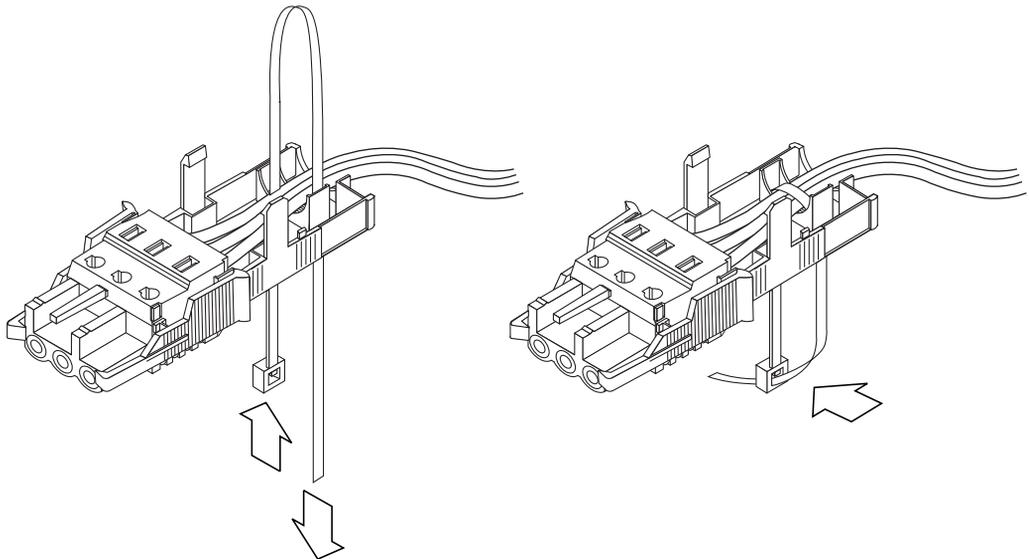

FIGURE 3-8 Securing the Wires to the Strain Relief Housing
3. Insert the tie wrap into the bottom portion of the strain relief housing (see FIGURE 3-8).
4. Loop the tie wrap over the wires and back out of the strain relief housing and tighten the tie wrap to secure the wires to the strain relief housing (see FIGURE 3-8).